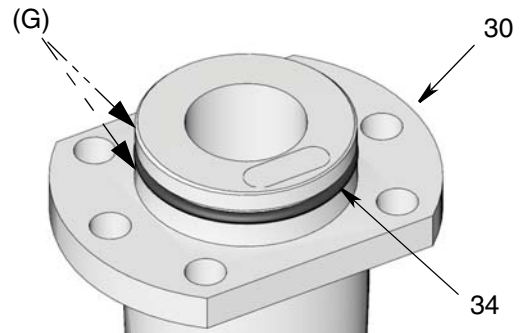

FIG. 67
14. Verify outlet o-ring (34) is in place on outlet (30). Apply a thin layer of grease (G) to o-ring as shown in FIG. 67.